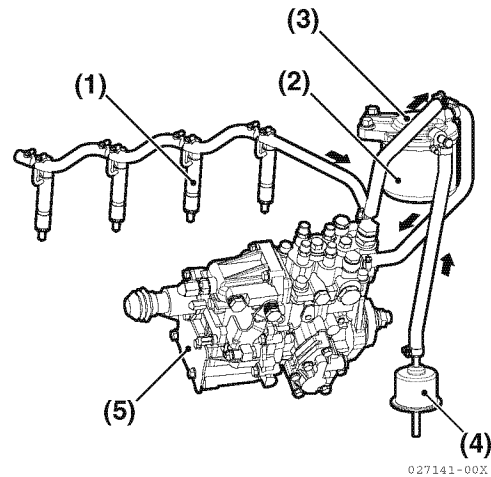

Figure 6-81
Figure 6-81 shows 4JH5E; 3JH5E is similar.
3. Turn the electric fuel feed pump (Figure 6-81, (4)) on to release air out of the fuel return line.